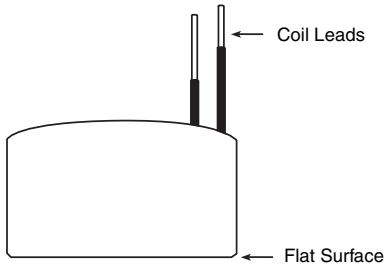

Figure 5: Coil and Core Assembly
6. Lay down the magnet case cover and coil assembly with the flat surface of the coil downward. See Figure 5.
7. Remove the three hex-head cap screws (W) in the center of the magnet case cover. Remove the terminal shield and the magnet case cover.
10. Place the new coil and coil core so that the back of the coil is horizontal, with the coil leads extending vertically. See Figure 5.
12. Replace the terminal shield and secure with three hex-head cap screws (W).
14. Using six hex-head cap screws (V), replace the magnet case cover and the coil/core assembly into the magnet case.